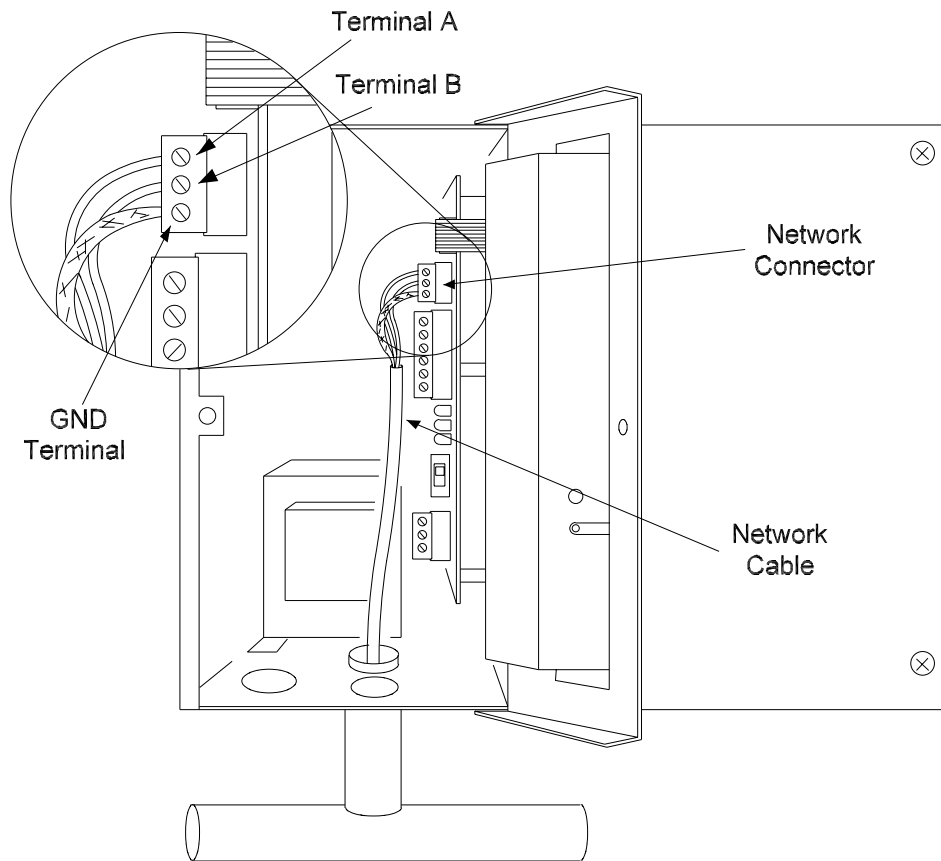

Figure 6.6 Network cable connections on the power supply board
Step 2: Connect the two network cable conductors to the network connector terminals **A** and **B** on the Prolink power supply board. See *figure 6.6*.